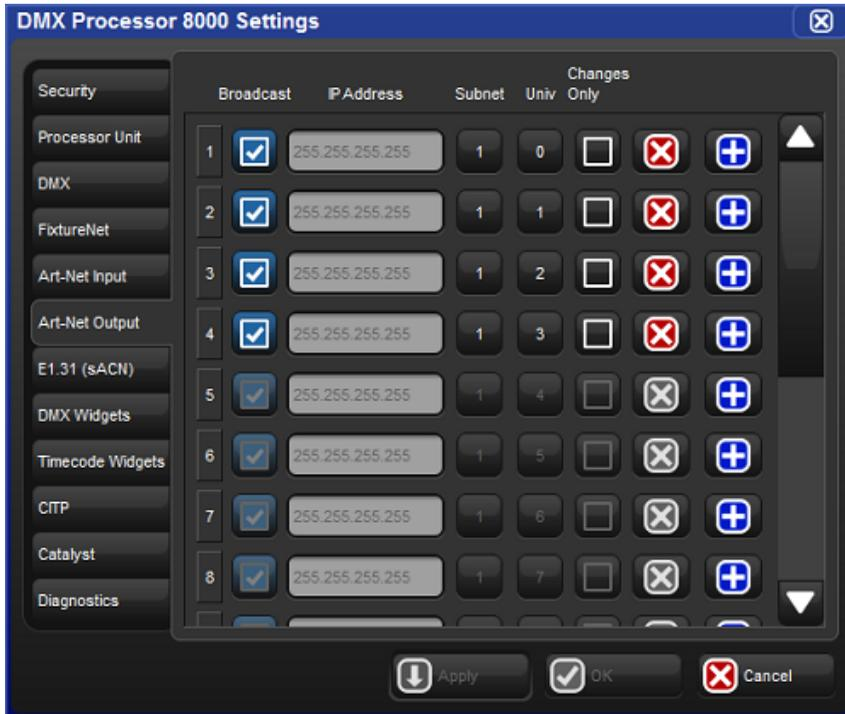

Figure 3.11. Art-Net Outputs pane of the DMX Processor Settings window
3. Select the Art-Net Outputs pane of the DMX Processor Settings window, see *Figure 3.11, “Art-Net Outputs pane of the DMX Processor Settings window”*.